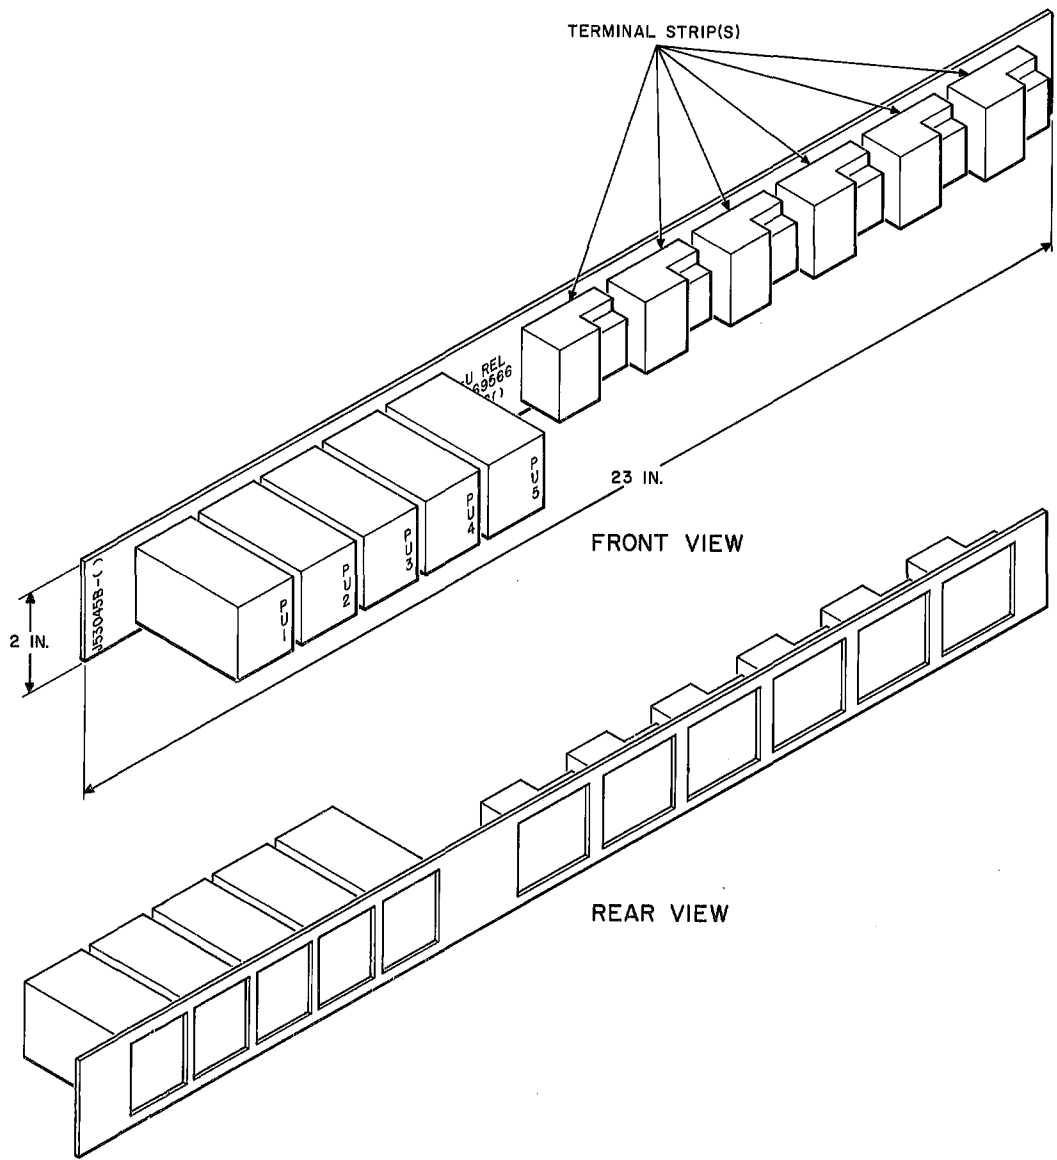

Fig. 2—Multiple Station Line Pickup Relay Unit
2.05 This unit (Fig. 2) is available to provide connections for up to five 4-wire private lines to one key type station set. Similar units associated with the same or other 4-wire private lines may be interconnected so that each 4-wire private line may be accessible to more than one station set and/or each station set may have access to more than one 4-wire private line. This single-plate unit is equipped with six wire-wrap terminal strips for installer connections.